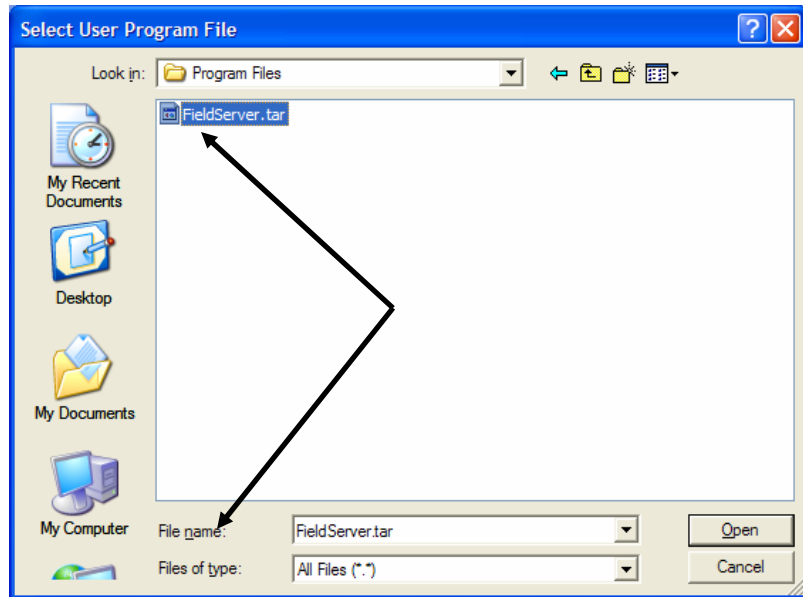

Figure A-4. Select User Program File
4. Click **Browse** and select the path and user program file to download from the CD-ROM. (Program files are typically located in the Program Files folder on the CD-ROM.) As *Figure A-4* shows, the screen lists all valid user program files with the .TAR extension.